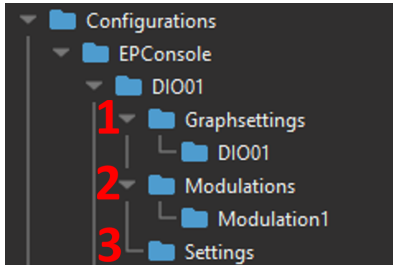
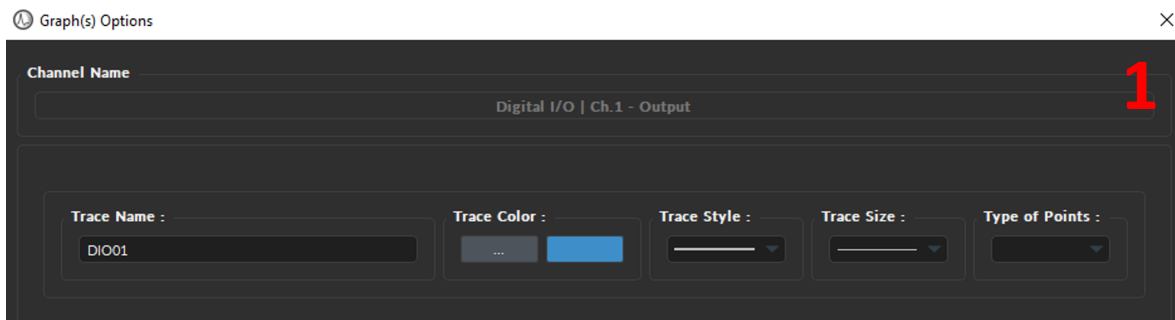

Figure 4.29: Channel-specific Structure
Figure 4.30: Acquisition Console, Graph Option(s) window
Each **Channel / Sensor Type** has different configuration attributes, however, they mostly can all be split into 2-3 sub-folders (Fig. 4.29):
1. The **Graphsettings** folder (Fig. 4.29, 1 & 4.31) contains the attributes concerning how the signals are displayed within the **Acquisition View** of the **Acquisition Console** module. Users can specify the trace name, color, style, size, and type of points within the **Graph(s) Options** window (Fig 4.30).
2. The **Modulations** folder (Fig. 4.29, 2 & 4.33a) is only included for output-type channels (Digital or Analog). This type of folder contains the user-specified attributes in the **Sequence Option(s)** of the **Channel(s) Configuration** window (Fig. 4.32, 2) (e.g. *Starting Delay, Frequency, Time ON, Pulse(s) Sequence*, etc.). Note that depending on the Channel type (Digital vs Analog) and Channel Mode (CW, Square, Stairs, etc.) the parameters of the **Sequence Option(s)** will change. However, all possible attributes, regardless of Channel Type and Mode, are included in the **Attribute** tab of the **GraphSettings** folder. If the attribute is unused, the value will be 0.
3. The **Settings** folder (Fig. 4.29, 3 & 4.33b) contains the attributes from the **Channel Options** box in the **Channel(s) Configuration** window (Fig. 4.32, 3).